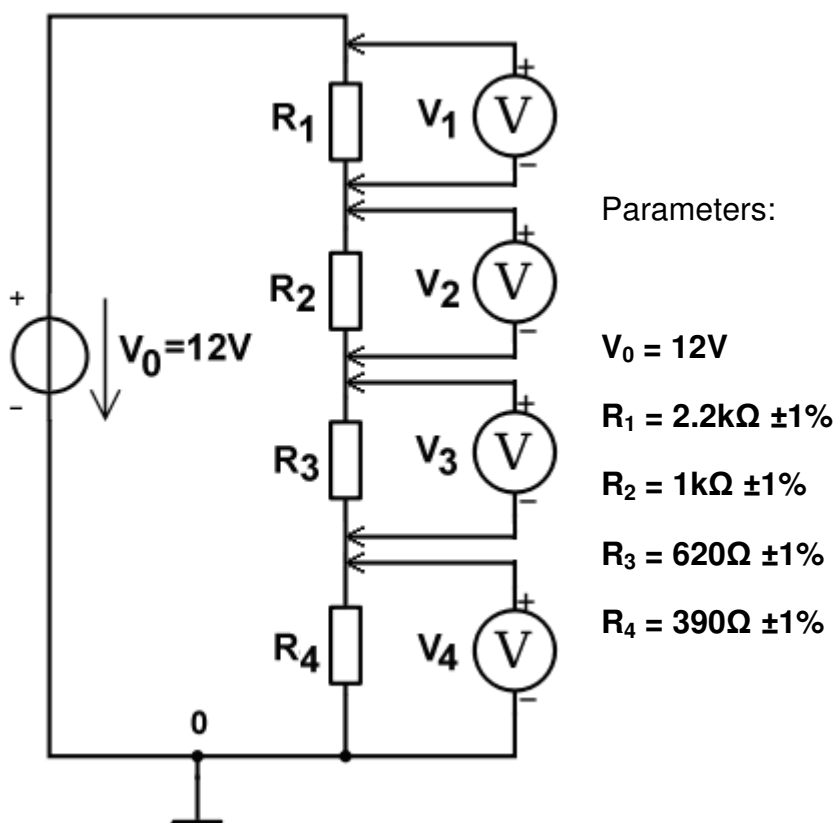

Figure 1.2. Series network
1.3.2 Connect the four resistors in series as shown in figure 1.2. One voltmeter will be enough for this measurement. The points between each neighbouring resistor pair should be connected to one of the banana sockets on the measuring panel for easy measurement.